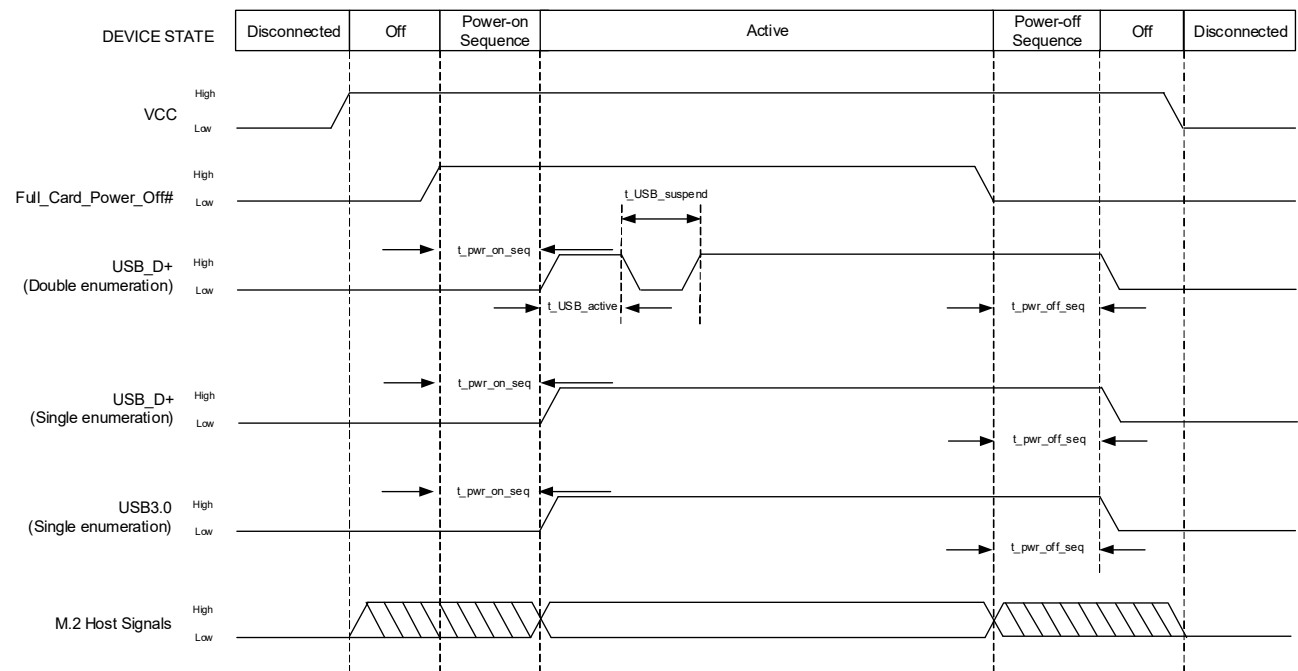

Figure 4-2: Signal Timing (Full\_Card\_Power\_Off#, and USB Enumeration)
Figure 4-2 describes the timing sequence for powering the module on and off.
- Double enumeration — As shown in Figure 4-2: